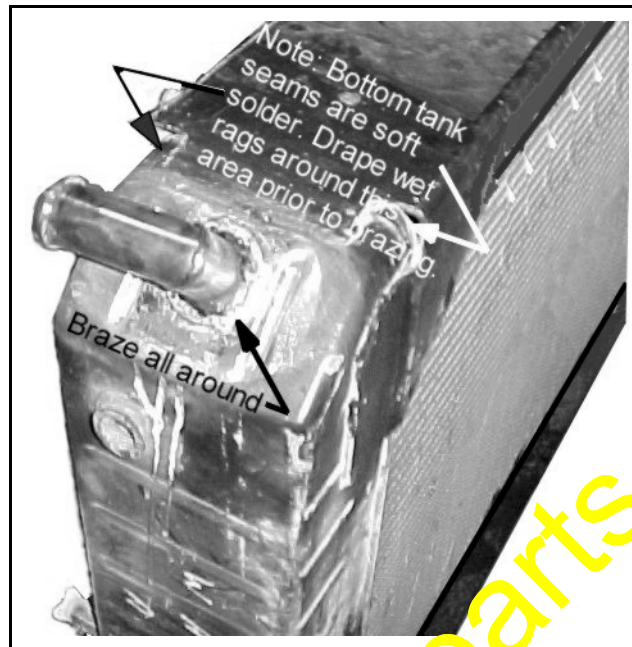

Figure 10 New Fitting Arrangement
- As shown in Figure 10, position the 90 degree fitting in the hole with the inlet end facing the machine front parallel to the tank bottom.